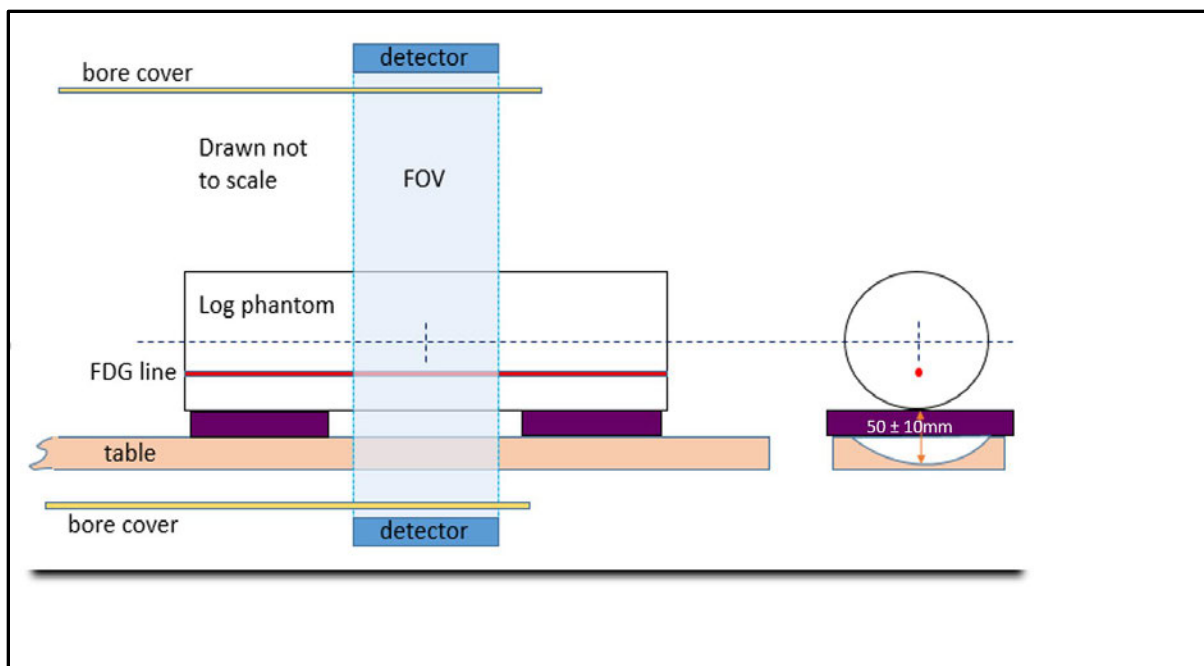

Figure 5.3 Side view and end view of the NEMA scatter phantom and shim relative to PET's FOV. Make sure that the supporting shims are not inside the scan FOV.
2. Figure 5.3 shows the side view of the phantom and the shim inside the FOV. Do not use soft material as a shim because the phantom may sag during the log acquisition if soft material is used as a shim. Also, make sure that the center rod holding the phantom together is tight enough and there is no gap visible between the sections of the phantom. The line source should not be exposed to the scanner directly and hence, “no gap” between the parts of the NEMA scatter phantom is very important.
4. For positioning of the phantom refer to Figure 5.3. Insert shims (wooden blocks or stack of paper of thickness 4 – 6 cm). Raise the table to align the center of the phantom to the center of the scanner (laser alignment) maintaining the line source hole nearest to the surface of the cradle, as shown in the illustration.